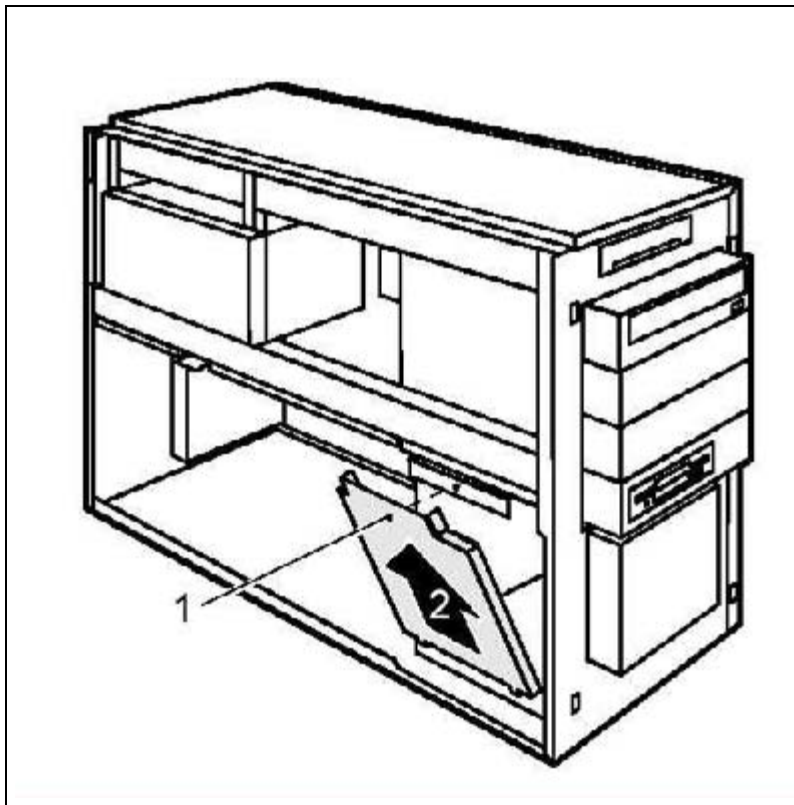

Fig. 41: Replacing a PCI board\_1
3. Loosen the screw (1/ Fig. 41 / p. 67).
4. Fold out the cover (2/Fig. 41 / p. 67).